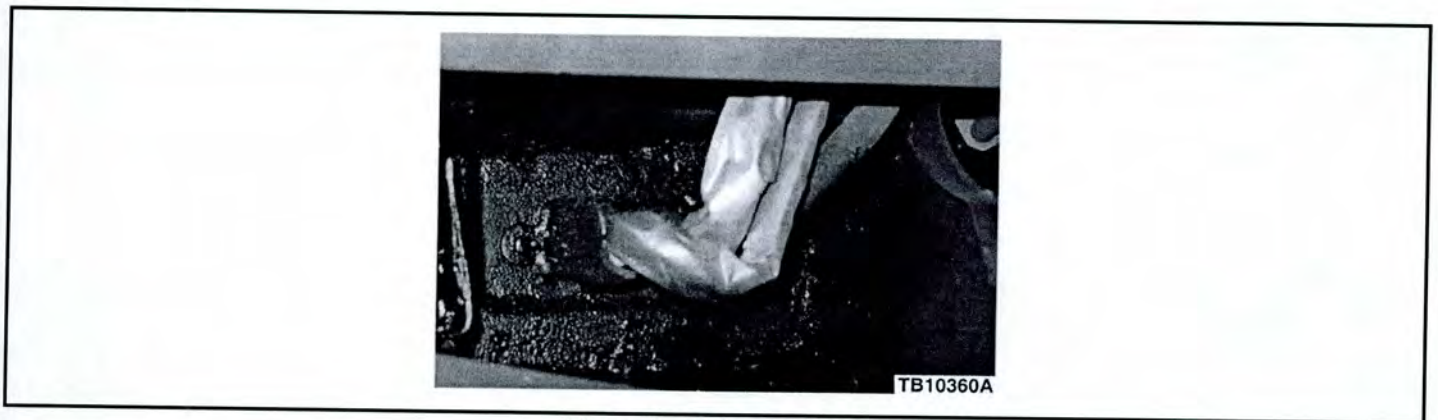

Figure 6 - Article 14-0130
12. Spray a generous amount of 3M™ Rubberized Undercoating around the auxiliary air conditioning lines and seam sealer areas. (Figure 6)